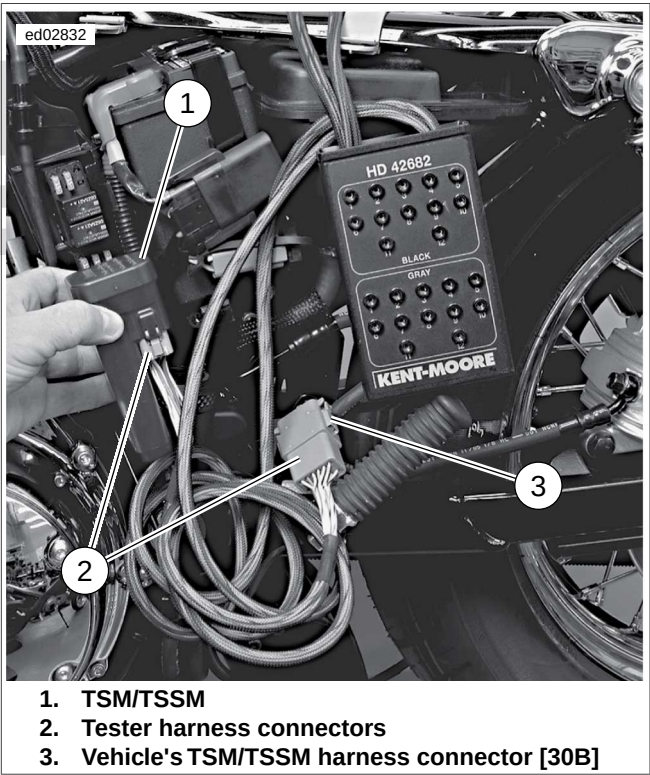

Figure E-15. Breakout Box: TSM/TSSM
6. See Figure E-15. Attach BREAKOUT BOX (Part No. HD-42682) to connectors:
- b. See Figure E-15. Detach gray BREAKOUT BOX (Part No. HD-42682) pin connector from harness connector [30B] (3).